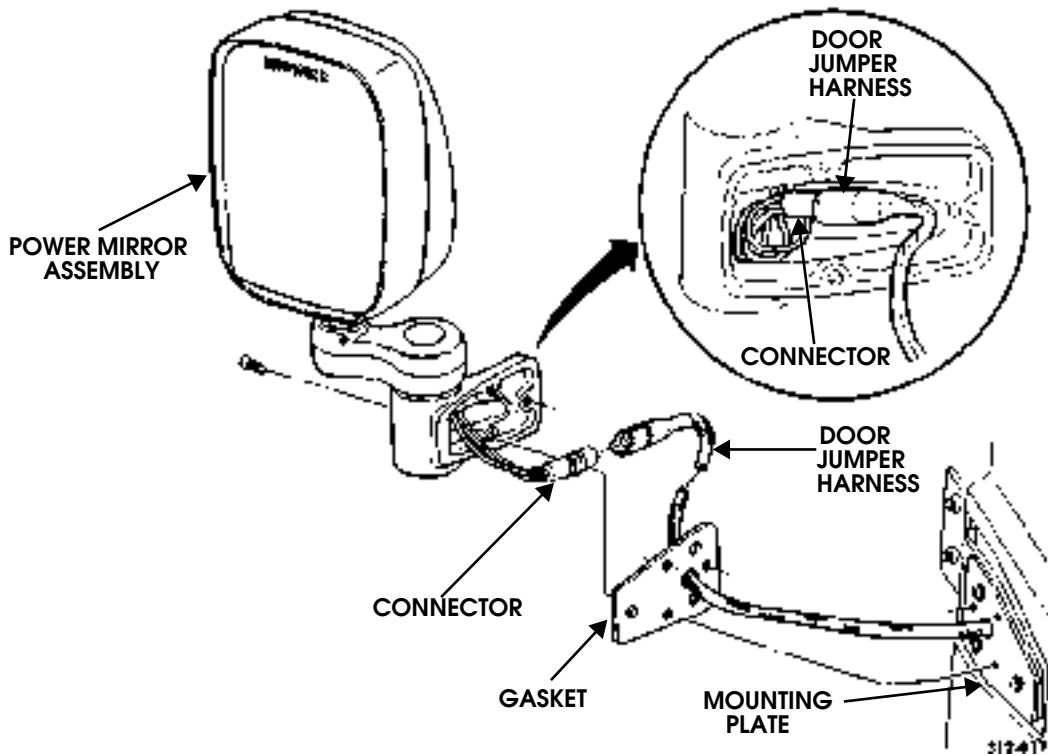

Figure 10-58: Power Mirror Assembly
1. Remove three screws securing power mirror assembly and gasket to mounting plate (Figure 10-58).
1. Connect power mirror assembly connector to door jumper harness (Figure 10-58).